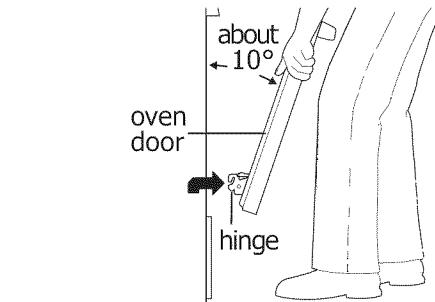
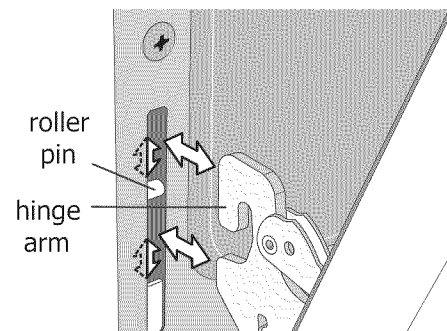

Figure 8: Holding door for removal
Figure 9: Replacement and location of hinge arm and roller pin
3. Firmly grasp both sides of oven door along the door sides. Do not use the oven door handle (See Figure 8).
4. Close the door to approximately 10 degrees from the door frame. (See Figure 8).
5. Lift the oven door hinge arms over the roller pins located on each side of the oven frame (See Figure 8).
1. Firmly grasp both sides of oven door along the door sides. Do not use the oven door handle (See Figure 8).
2. Holding the oven door at the same angle as the removal position, seat the hook of the hinge arm over the roller pins located on each side of the oven door frame (See Figure 8 and Figure 9). The hook of the hinge arms must be fully seated onto the roller pins.